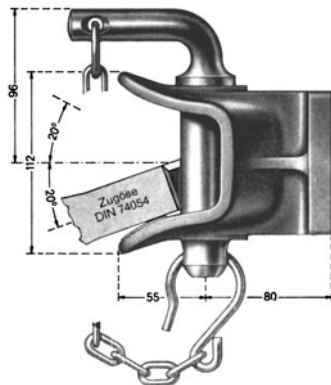

Fig. 2
**Check:** After hitching, the locking hook of the chain must be in a vertical position (see Fig. 2).